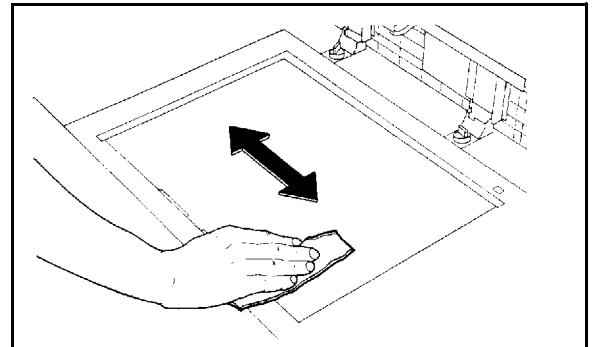

Figure 3: Cleaning the Document Glass
- 2 Clean the Document Glass by wiping the glass in the lengthwise direction, as illustrated in Figure 3. Keep your fingers off the glass.